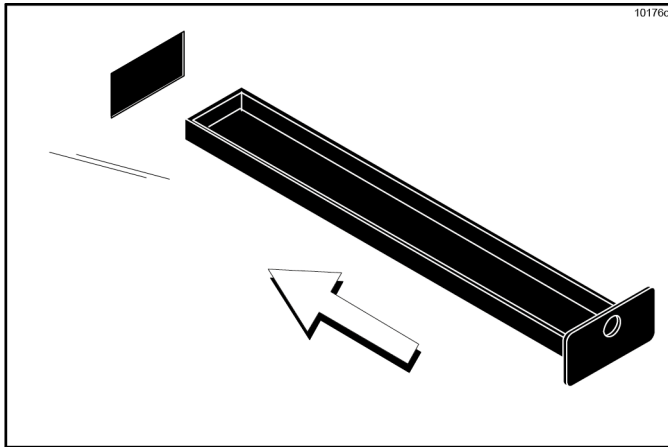

Figure 6-27
- Slide the two shorter drip pans into the holes in the rear panel. Slide the two drip pans with holes into the left and right side panels. (See Figure 6-27.)